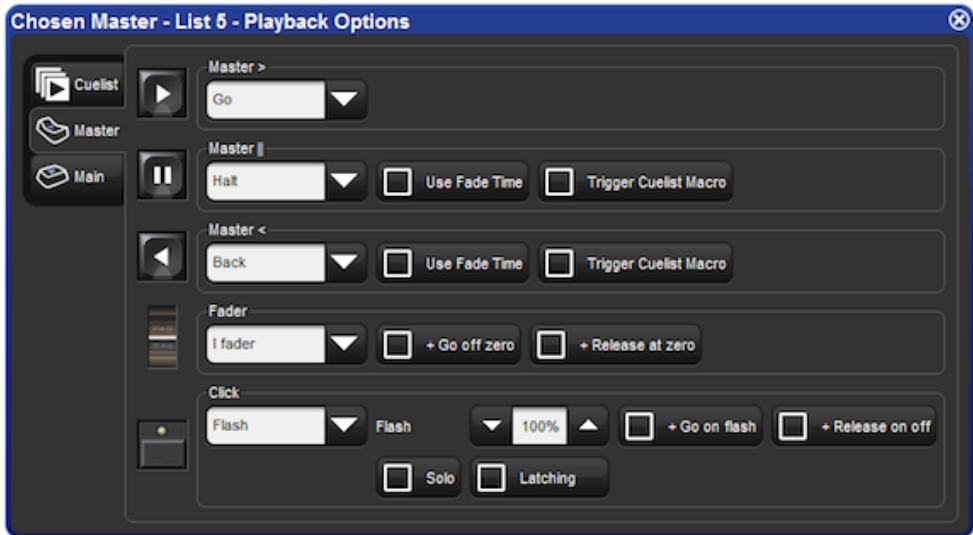
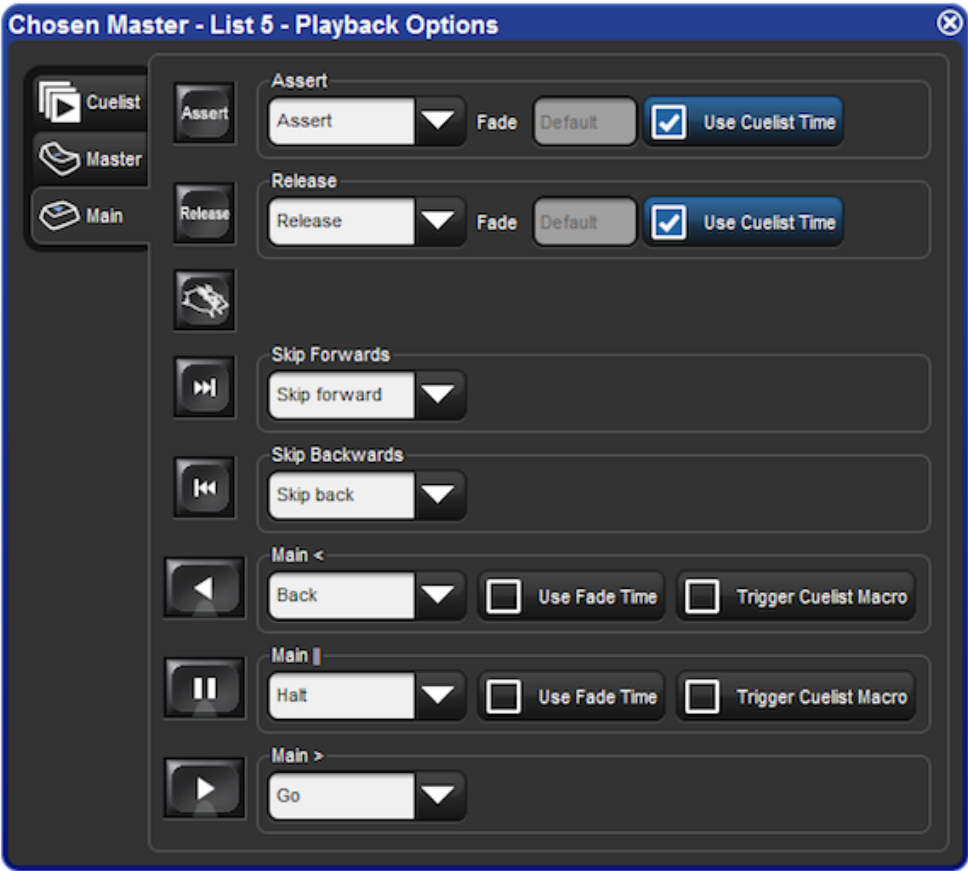

Figure 16.10. The Master pane of the Cuelist Options window
Figure 16.11. The Main Controls pane of the CueList Options window
3. Under Controls, select the Master or Main Controls pane; see *Figure 16.10*, "The Master pane of the Cuelist Options window" and *Figure 16.11*, "The Main Controls pane of the Cuelist Options window".